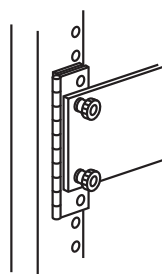

Figure 3. Hinge bracket installed.
3. Figure 3 shows the final assembly of the hinged side of the kit.